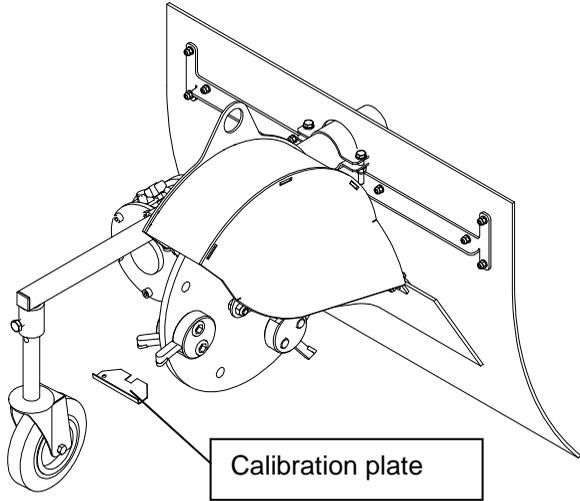

Fig. 11b
- Adjust the position of the tools using a calibration plate (Fig. 11b).